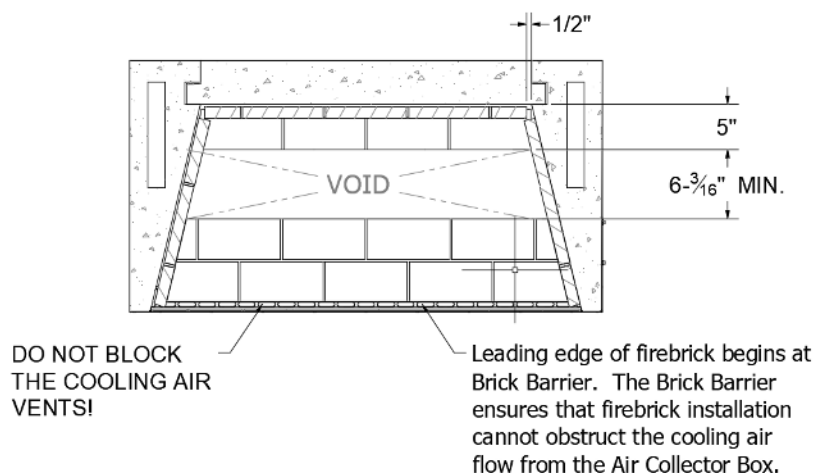

FIGURE 47
- 2) When used in the Maximus Linear Fireplace with Glass Front, the ISOFLAMES Linear Burner is designed to be recessed into the 2-1/2" deep firebrick cavity constructed as detailed in the Firebrick Installation portion of this manual (**pgs. 51-52/ Figure 47 & 48**).